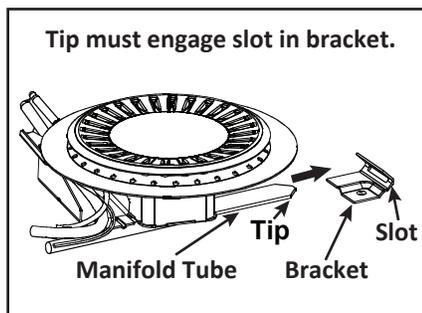
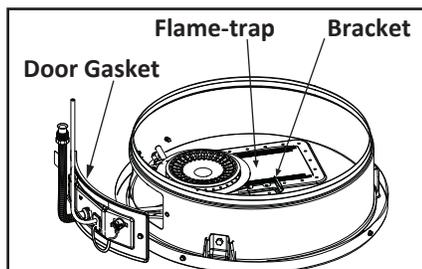

Figure 26: Inside view of combustion chamber
Figure 27: Combustion Chamber
3. Insert the conversion manifold assembly into the burner compartment, making sure that the tip of the manifold tube engages in the slot of the bracket inside the combustion chamber. See Figure 26 and Figure 27.
4. Inspect the door gasket and make sure there is no fiberglass insulation between the gasket and the combustion chamber (Figure 27).